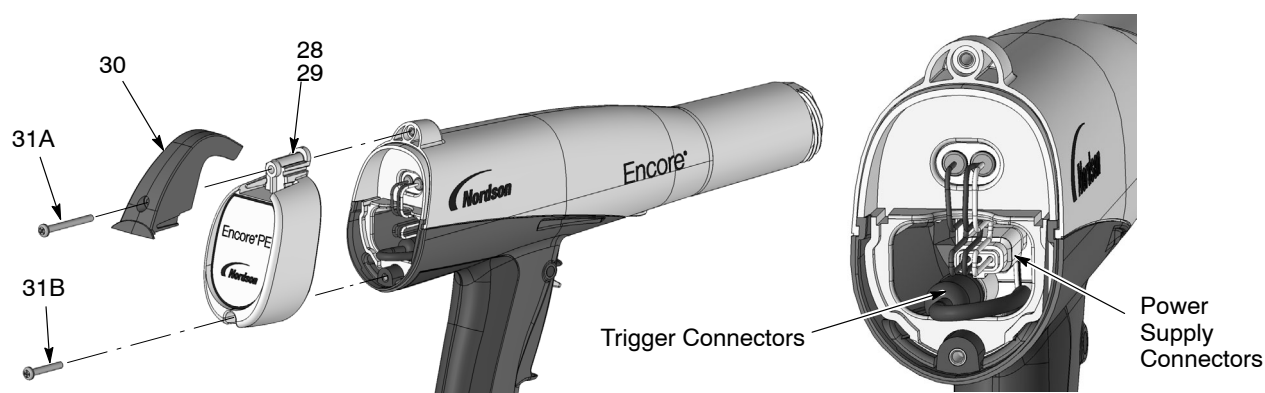

Figure 6-1 Gun Disassembly
5. See Figure 6-1. Install the cover, housing, and hook as shown.
2. See Figure 6-1. Remove the bottom screw (31B) from the housing (29).